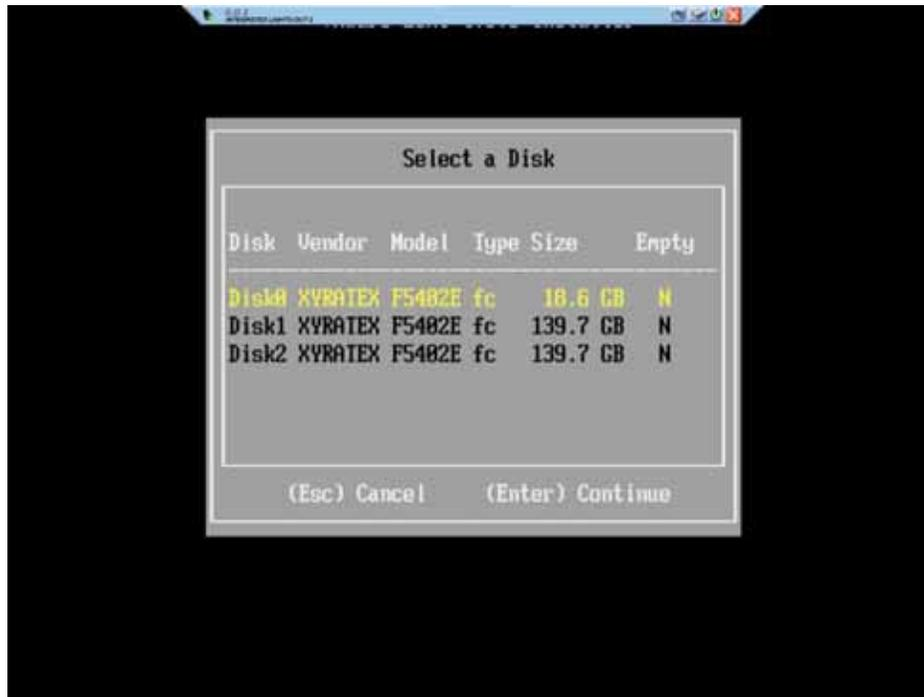

Figure 17 Select a Disk for Booting
- Step 5** On the Select a Disk dialog, select the LUN on which the iSCSI Boot vNIC is connected. Figure 17 on page 94 show an example of this dialog.